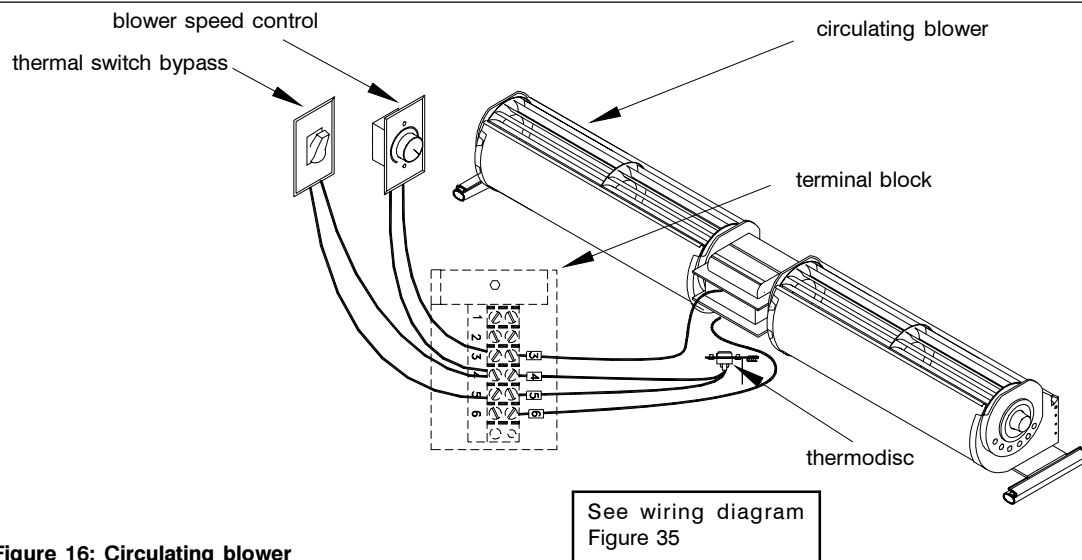

Figure 16: Circulating blower
5. Locate the provided speed control in a switch box at a convenient location on the wall and connect it with conventional 90° C 14-gauge wire (see figure 16).